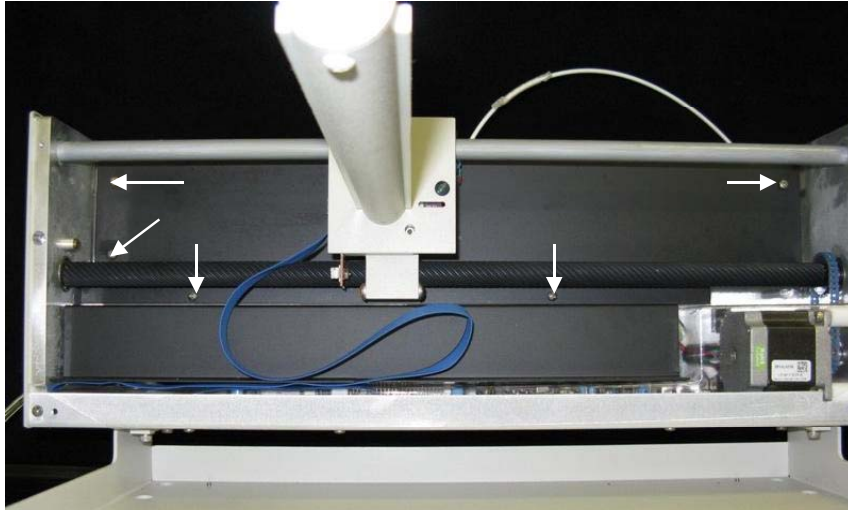

Figure 1-12. View of new shield and splashguard inside the ASX-520.
10. If you have a newer shield/splash guard combination proceed as follows. Locate and remove the 5 screws holding the shield in place. See Figure 1-12.